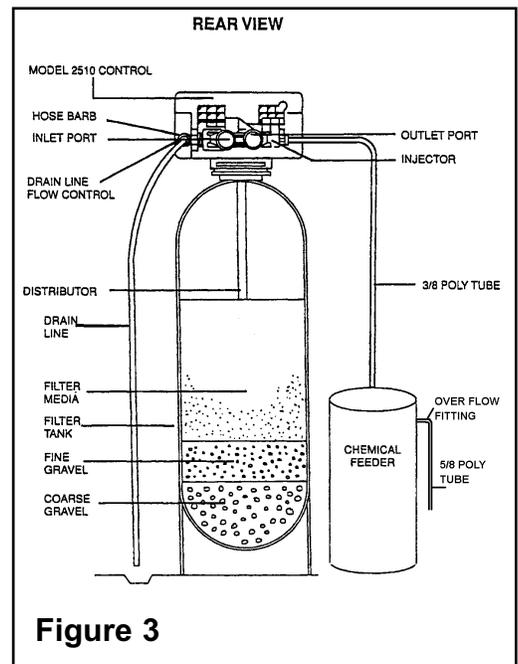

Figure 3
- On the drain, use the 1/2" hose barb supplied and a full 1/2" ID hose (not supplied) for the drain line and make the shortest run to a suitable drain. The drain line must be secured in position at the end which discharges into the drain so it cannot be inadvertently moved from the drain, resulting in chemical spillage, as shown in Figure 3.